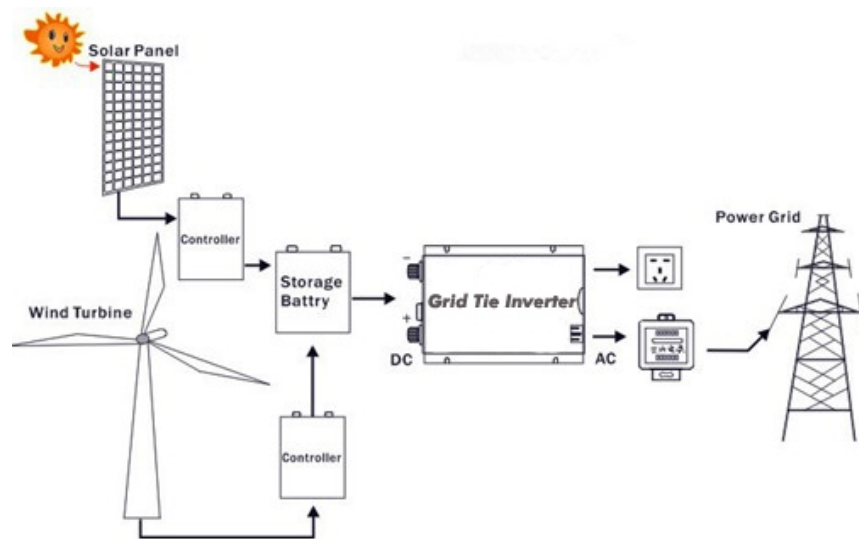

Figure2
2. AC socket: Connection to the mains. The AC cord to the inverter 3 foot outlet, then the AC cord to home 3PIN AC outlet. Are shown in Figure 2.